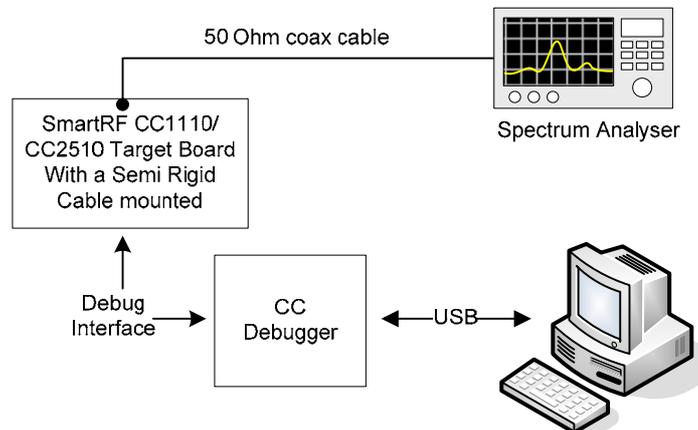

Figure 7-6 - Output power measurement
- Solder a semi rigid cable to test point T2 on the SmartRF CC1110 target board or T3 on the SmartRF CC2510 target board and turn the R1/R2 resistor from the PCB antenna position to the test point position, see more in section 6.6. Connect a 50 Ohm coax cable from the spectrum analyzer to the semi rigid cable and use the “Simple TX” test mode in SmartRF Studio to set the desired parameters. This is illustrated in Figure 7-6.